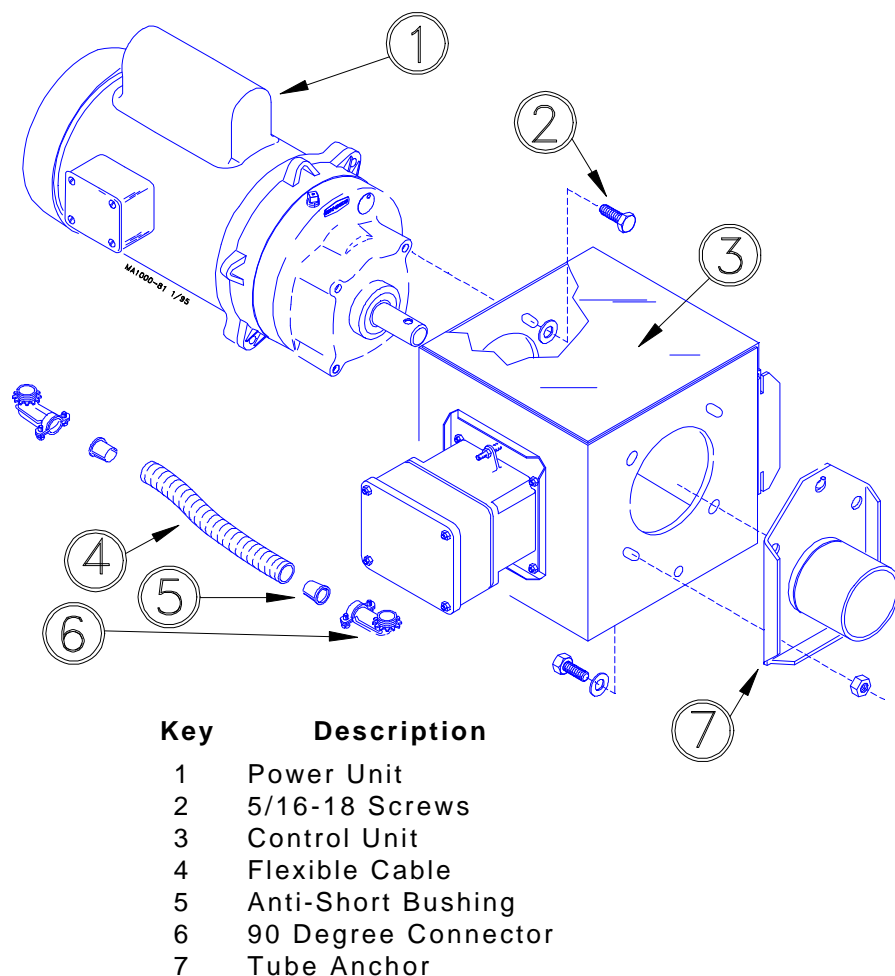

Figure 13. Control Unit/Power Unit assembly procedure.
1. Attach the Tube Anchor to the end of the Control Unit. Place a flat washer on each bolt that fastens the Tube Anchor to the Control Unit. See Figure 13.